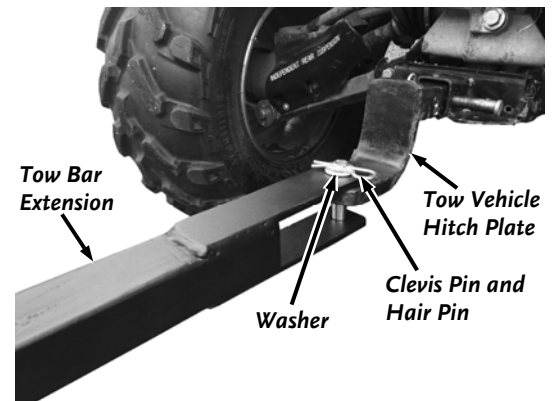

Figure 10
2. Align the Tow Hitch to the hole in the center of your Hitch Plate with the top portion of the Tow Hitch above the Hitch Plate and the bottom portion below (*Figure 10*).